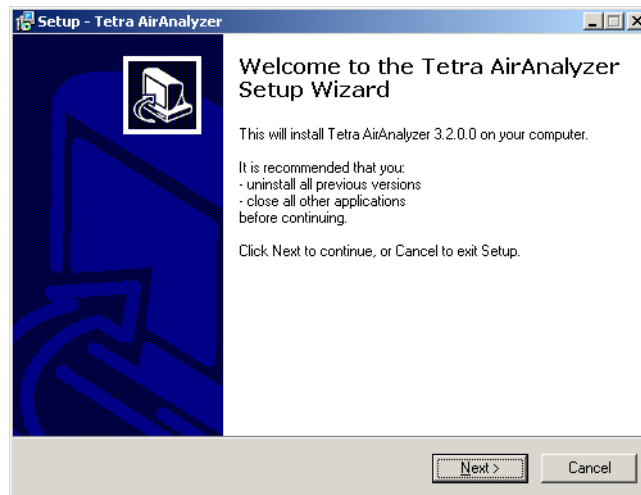

Figure 1 TETRA AirAnalyzer Setup Wizard
- 2 Run the installation program TetraAirAnalyzer_Setup_3.2.x.x.exe from the CD-ROM with administrator rights. A message box will appear indicating that you are about to install the TETRA AirAnalyzer (see Figure 1).